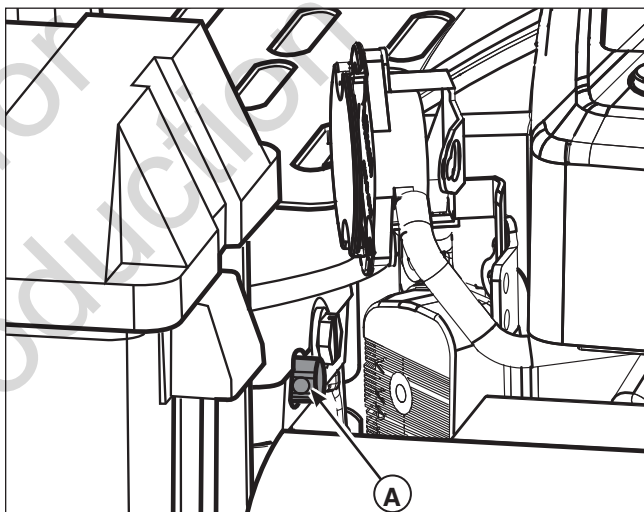

Figure 5. Hydraulic System By-Pass
2. To disengage the pump (free-wheel position), turn the hydraulic release valve (A, Figure 5) located on the hydraulic pump COUNTER-CLOCKWISE a maximum of 2 full turns.